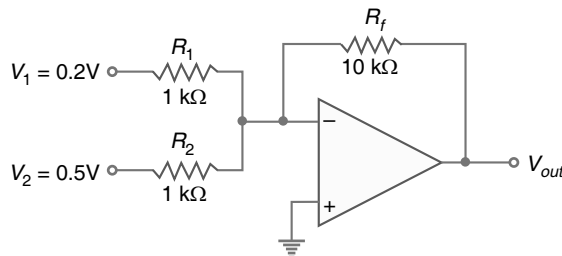

**Fig. 23.72**
**Example 23.44.** Determine the output voltage for the summing amplifier in Fig. 23.72.
**Solution.** Referring to Fig. 23.72, all the three input resistor values are equal and each is equal to the value of feedback resistor. Therefore, the gain of the summing amplifier is 1. As a result, the output voltage is the algebraic sum of three input voltages.